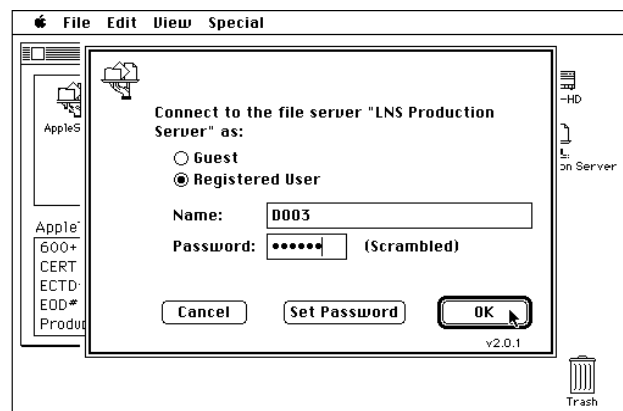

Figure 2
- 5.0 The message “Connect to the file server “LNS Production Server” as: Registered User” will appear. See Figure 2. The dyno number will be displayed in the “Name” box.